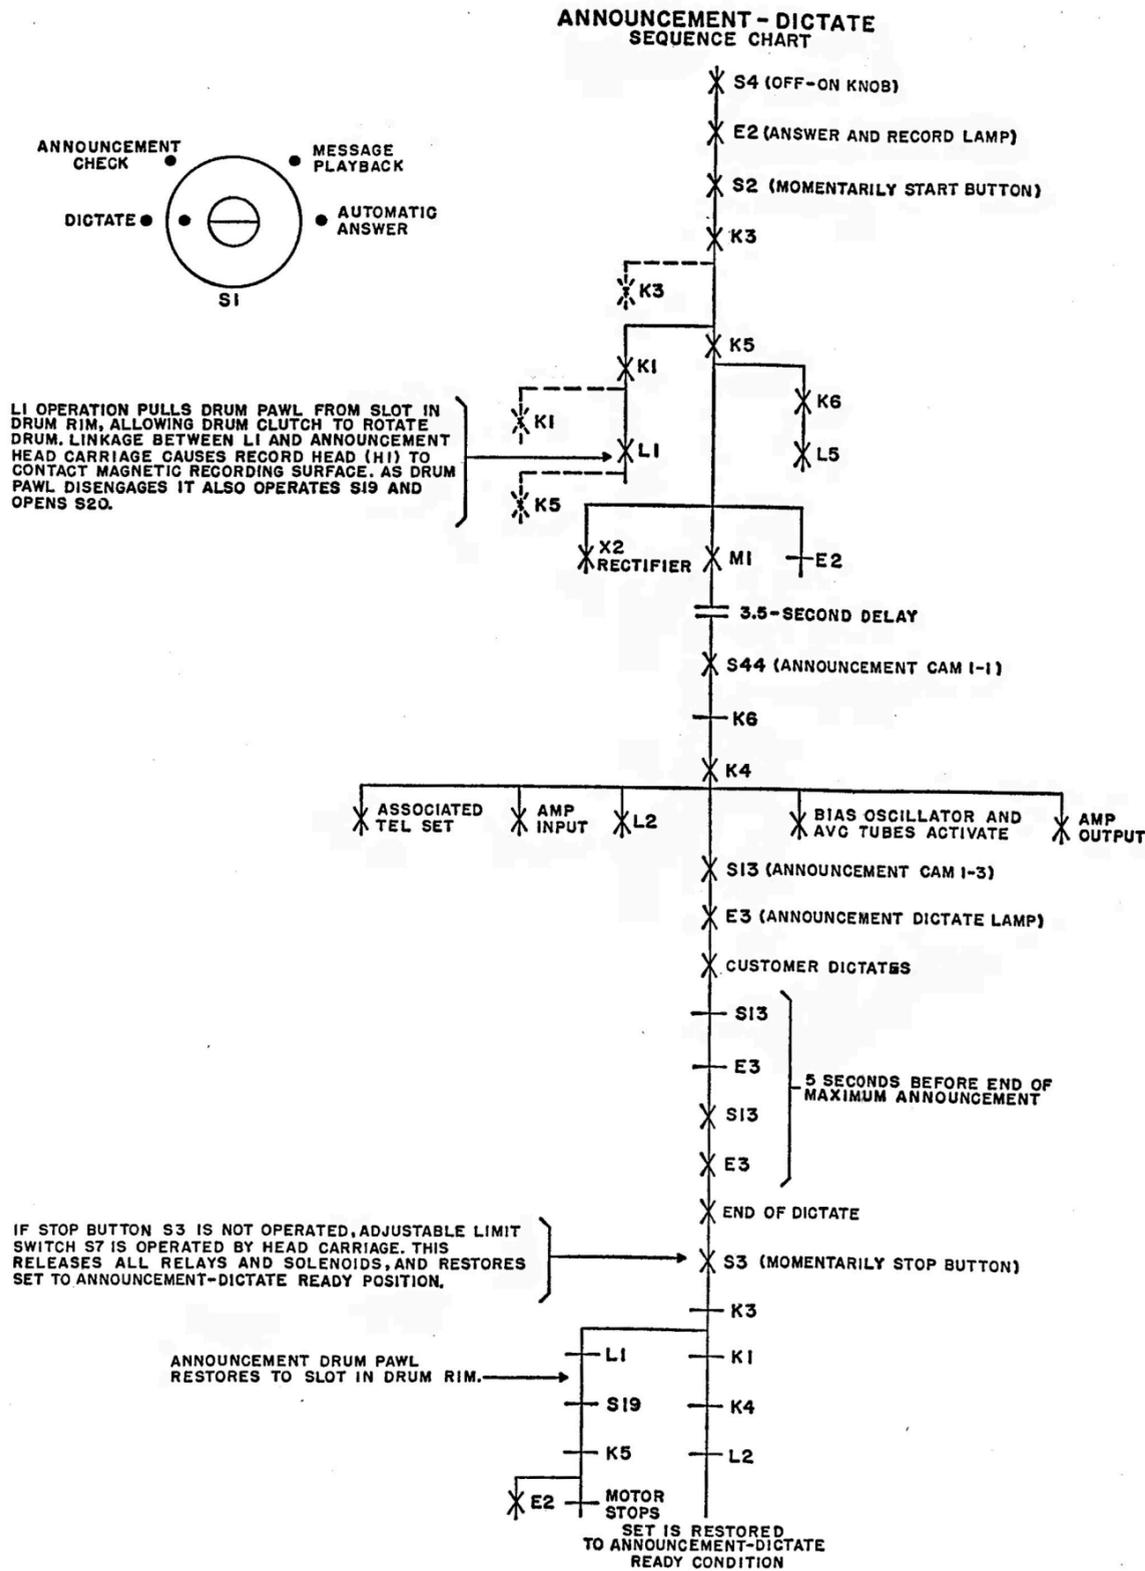

Fig. 1
- Announcement Dictate (Fig. 1 and 2)
Fig. 1 and 2